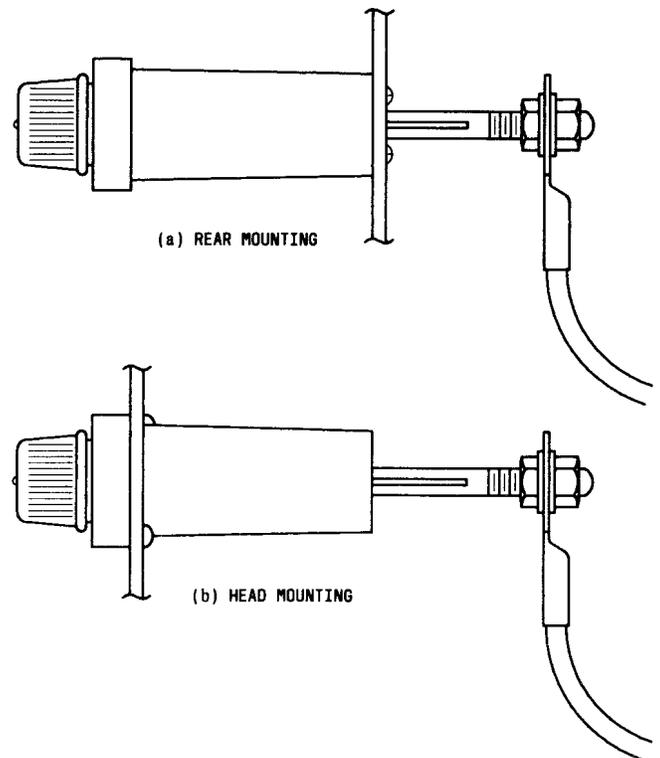

Fig. 16—20A Fuse Block Mounting Methods
- (1) Shut the power off.
- (2) Remove the lead from the battery terminal by holding inner hex nut with a wrench while loosening the outer nut.
- (3) Remove the lead from the load terminal. [See subparagraph 3.10 (2).]
- (4) Remove the fuse block from the mounting panel.
**Note 1:** The 20A fuse block may either be head mounted or rear mounted (Fig. 16). The rear mounting is the preferred method for reason of strength and maximum voltage rating.